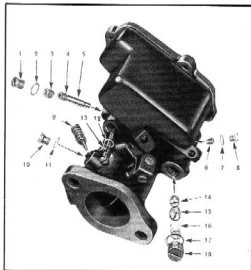

Fig. 11—Down-draft Carburetor Valves and Jets
4. Assemble the copper gasket on the main nozzle, (4) Fig. 11. Hold the carburetor with the air horn down, line up the flat part of the "D" section on the nozzle with that in the primary venturi and drop the nozzle (5) into the opening. Install the nozzle screw plug (3) and tighten it securely. Tighten the three air horn screws. Install the main nozzle passage plug (1) using a new copper gasket (2).
5. Install the low speed jet (13) and gasket (12) in the carburetor body, then again remove the jet and check the bearing on the top end of the jet. If there is a complete bearing around the top of the jet indicating a full seat, it may be
6. Install the outlet and inlet check valves (14) and (15), Fig. 11, in the carburetor body. Then install the screen (16), passage plug (18) and gasket (17). Install the accelerating pump jet (6), plug (8) and gasket (7).